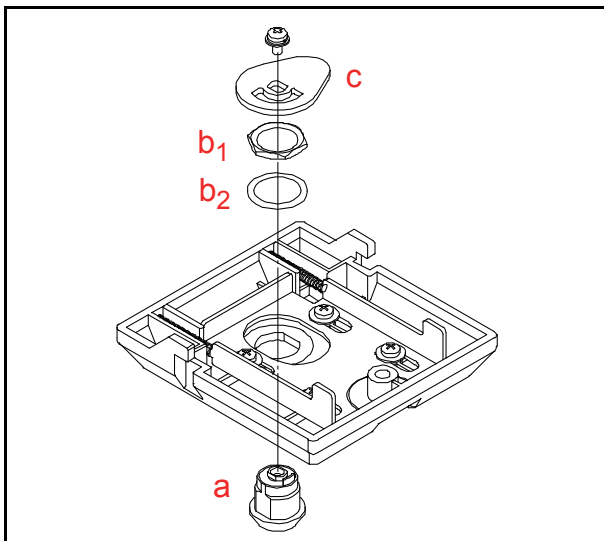

Figure 12 Frame Lock Installation 1
1. Place the Cylinder (Figure 12 a) from the front side of the lock installation hole.
2. Install the Cylinder attachments (Figure 12 b₁ & b₂) and the Door Lock Tang (Figure 12 c) from the inside of the lock installation hole while confirming that the Cylinder direction is correct.